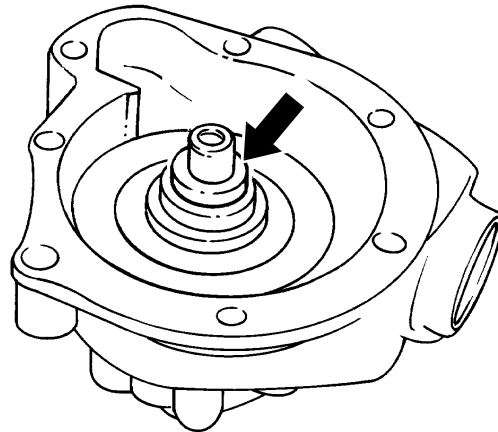

Figure 91 - Mechanical Seal - Installation
- d. Install the mechanical seal (Fig 91) over the shaft onto the coolant pump housing and press it into position using the replacer (Table 2, Item 40).